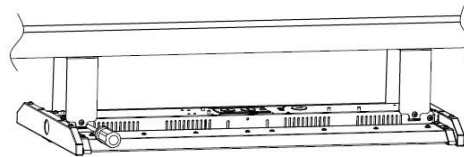

Figure 4
2. Attach the fixture to the brackets with screws (Figure 4).